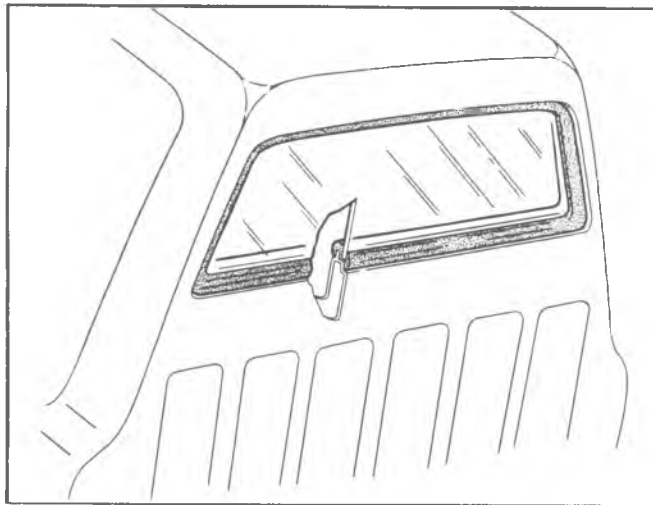

Fig. 20—Back Window Glass—(03, 63)
**NOTE:** The procedure for removal of the windshield applies to other stationary glass applications, such as in figures 20 and 21.
The method used to remove the windshield glass may be applied to other stationary glass, such as shown in figures 20 and 21. Remember to check for cause of breakage, and to always wear gloves when handling glass. Installation procedures are similar to G-Van windshield. Refer to figures 9G and 10G, later in this section.